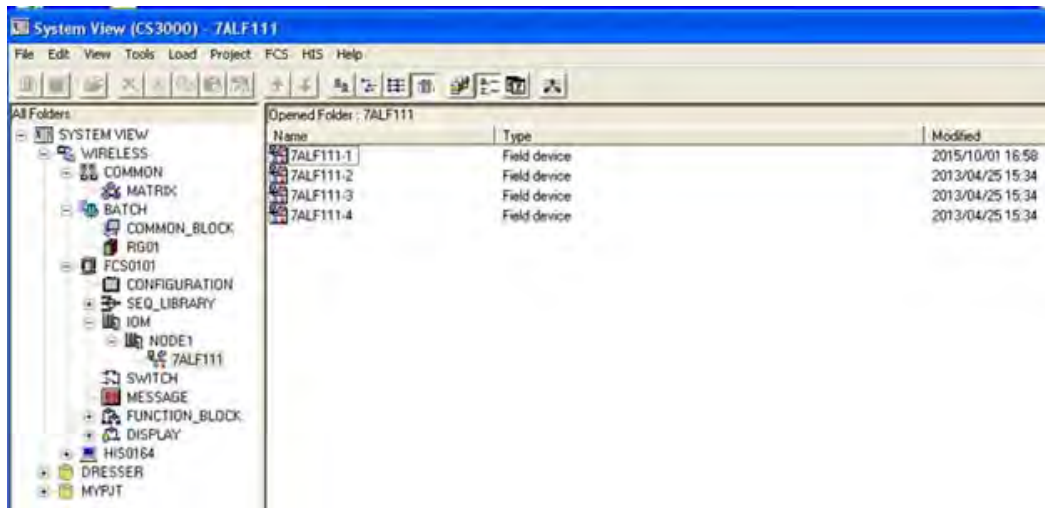

Figure 69 Example of Fieldbus Interface Module in System View
1. Navigate in the System View application to the FF interface module. Figure 69 provides an example.